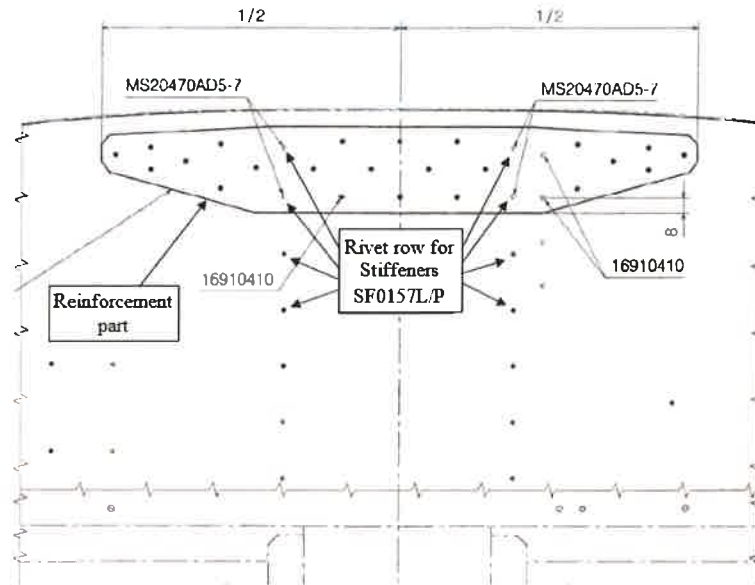

Figure 9 - Reinforcement part touched to the firewall (view from the cockpit)
13. Touch the reinforcement part to the firewall from the cockpit side, fit the part in accordance with Figure 9, drill the rivet holes and rivet the reinforcement part with the firewall, stiffeners SF0157L/P and the relays holder.